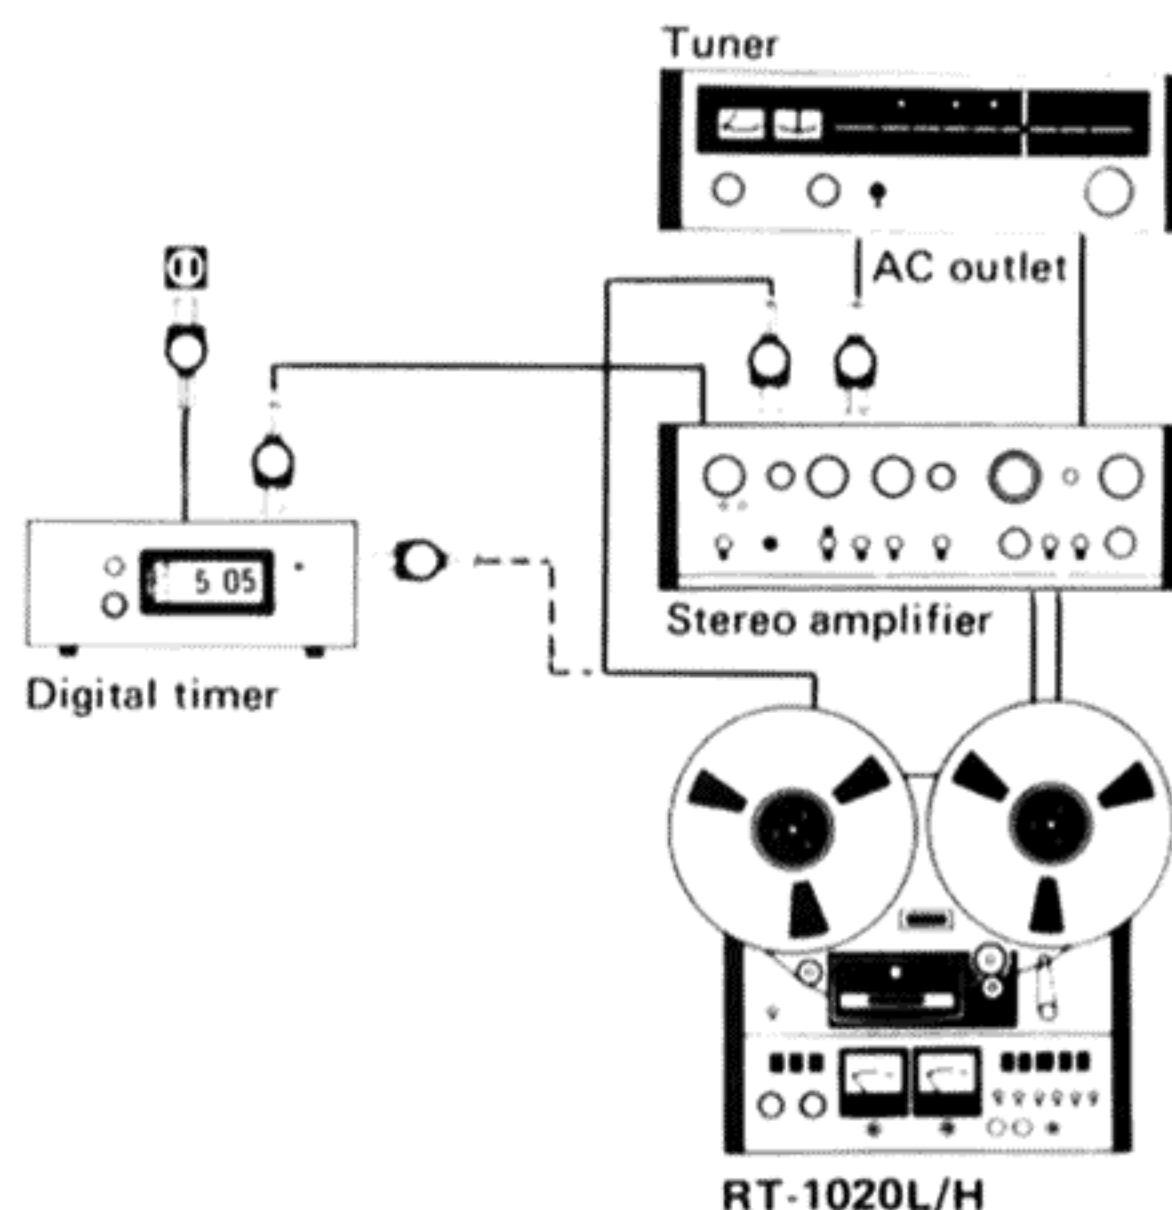

Fig. 52
1. Connect the power cords of the RT-1020L/H, amplifier, tuner, etc. to digital timer (see Fig. 52).